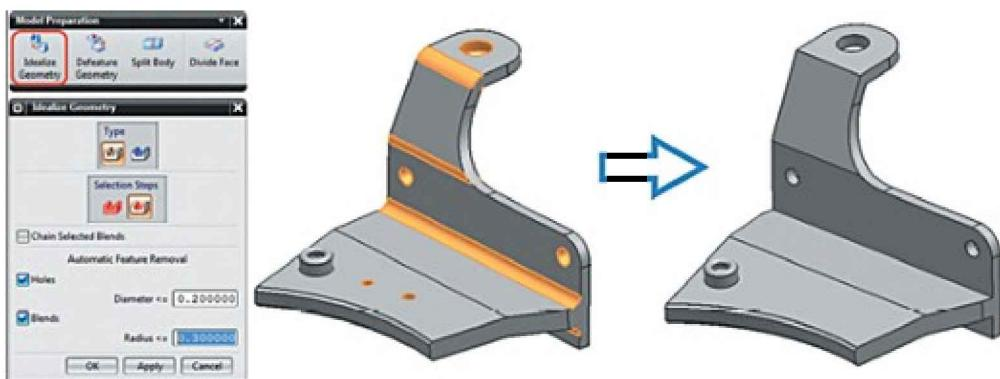

Figure 2.14. Idealize Geometry command, removing holes and blends
3. Click **Idealize Geometry** on the **Model Preparation** toolbar. In the dialog box (Figure 2.14) do the following: